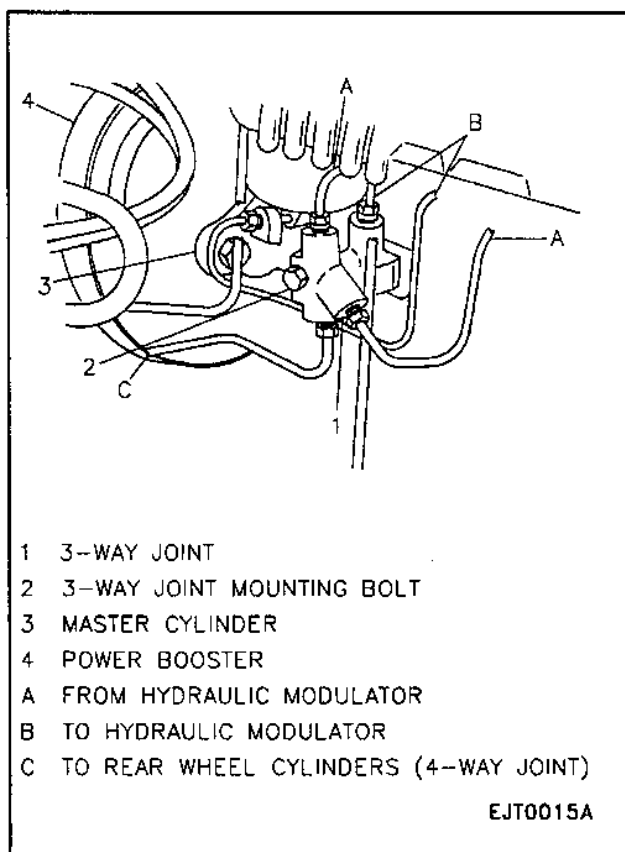

Figure 5—Master Cylinder Pipes / 3-Way Joint (ABS-Equipped)
1. New master cylinder fluid reservoir connector grommets into master cylinder. Lubricate grommets with new, clean brake fluid. Make sure grommets are seated properly (Figure 5).
Figures 5 and 6
3. On vehicles equipped with ABS: One bolt securing the three-way joint and set it aside (Figure 5).